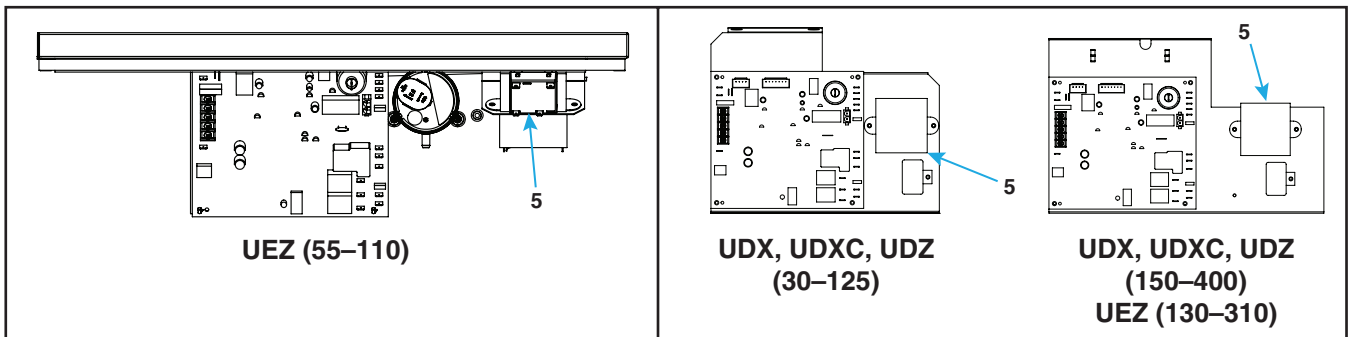

Figure 2. Transformer Location—Models UDX, UDXC, UDX, and UEZ (Refer to Table 2)
- (1) Remove control compartment access panel and locate existing transformer (see Figure 2) mounted on control board at bottom of control compartment for unit size 130–310 UEZ and all UDX, UDXC, and UDX models.
- (2) Mark and disconnect transformer wires
- (3) Remove screws that secure existing transformer and remove transformer.
- (4) Install replacement transformer (5) with wiring harness (6) and secure using existing screws.
- (5) Reconnect transformer wires in accordance with wiring diagram provided with unit.
- (6) Install control compartment access panel.